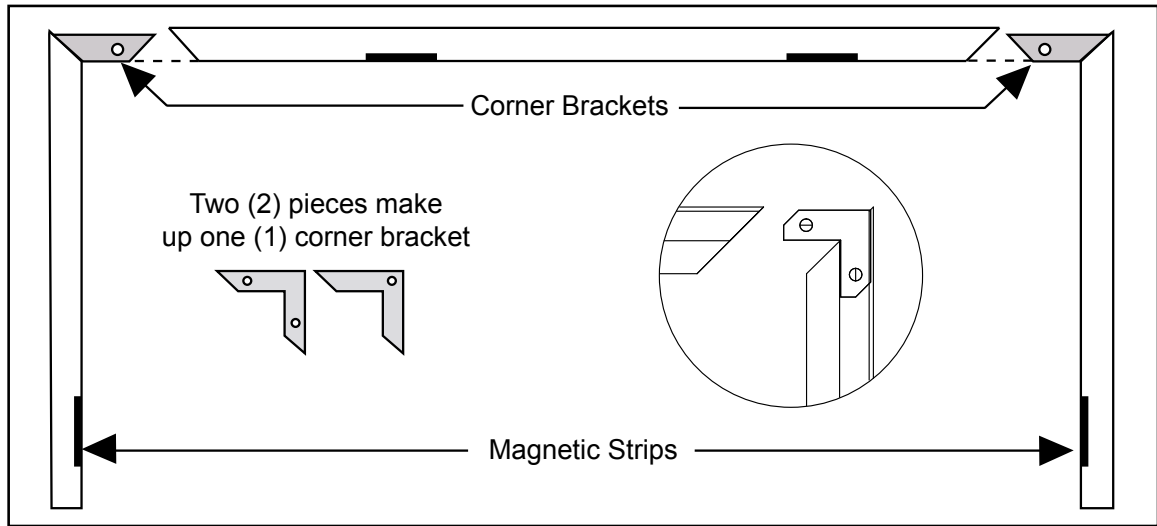

Figure 33: Assembling Trim for Surround Panel.
1. Assemble the trim set using the corner hardware and screws supplied in the surround panel packaging. Install corner hardware into the side trim pieces, then push them into the top trim. Do not over-tighten the corners or the side trim cannot be removed during servicing. See Figure 33.